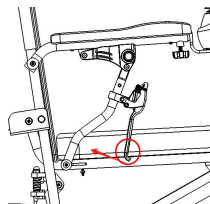

Figure 19
► Adjustment of the angle of the backrest: hold the brake in your right hand, lay your back back until it is in a comfortable position and release the brake. (See Figs19, 20,and21).